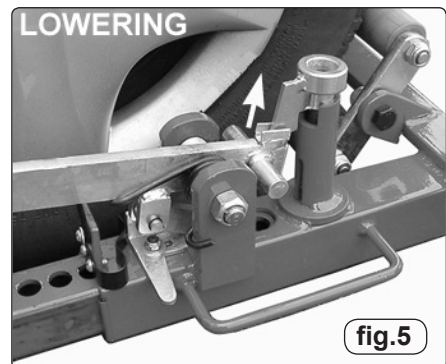

fig.5
4.6.3. Operate the foot pedal lever through its full travel to commence lowering in controlled stages. The last movement of the lever will raise the locking pin (see fig.5 LOWERING) to allow the unit to open whilst the ratchet lever acts as a stop to lock the unit in the next hole down. Continue to operate the lever through its full travel until the tyre is on the ground and no longer exerting pressure on the rollers.